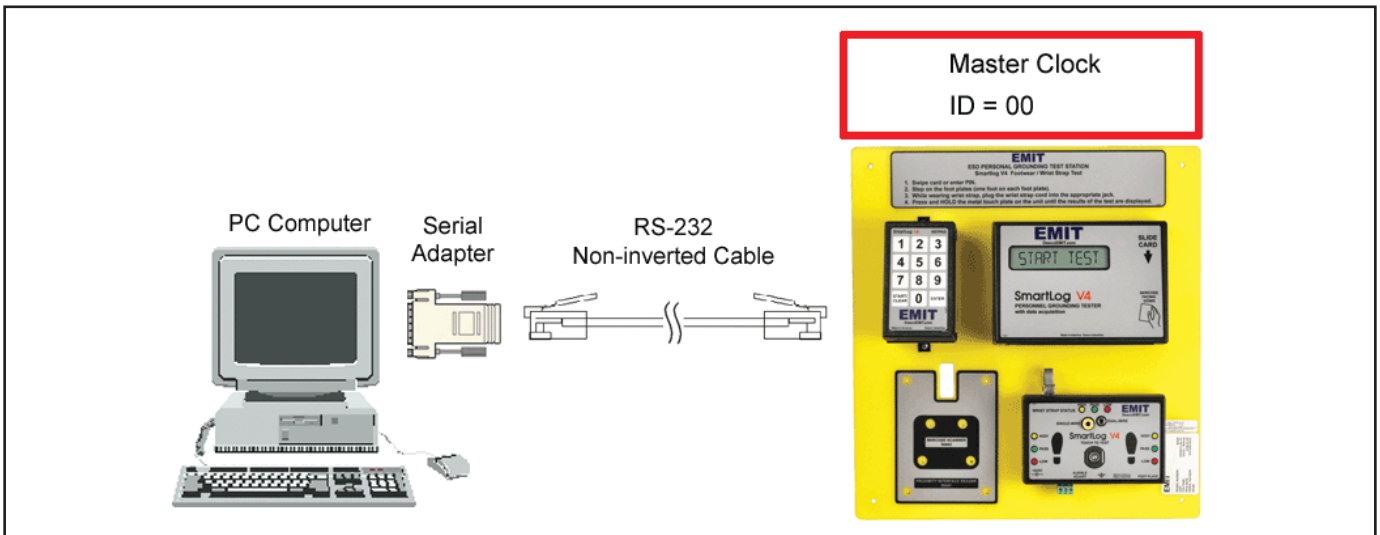

Figure 7. Connecting one SmartLog V4
Connecting One SmartLog V4 (See Figure 7)
- a. Verify that the cable from the computer to the SmartLog is properly connected. The cable should be flat non-inverted (See Figure 7).
- e. Make sure that the SmartLog LED's are blinking during data transmission. If they are not blinking or remain on all the time, please contact EMIT technical support at (909) 664-9980 for further support.